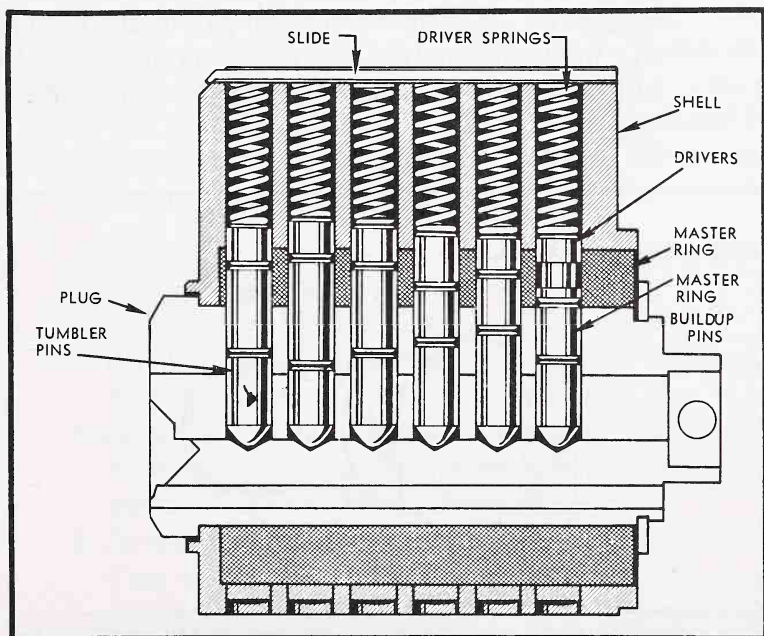

Fig. 13-19. Corbin master-ring cylinder.
5. Withdraw the plug and remove all pins from their chambers. Figure 13-19 illustrates this procedure.